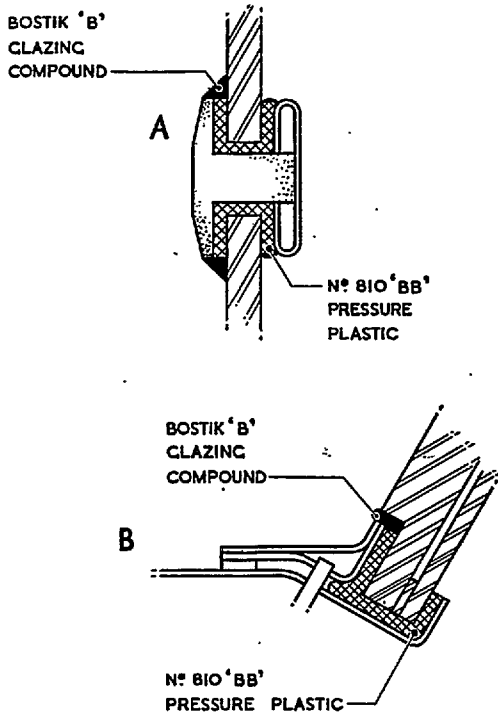

Fig. 3.—Further examples of mounting and sealing
21. Two similar examples of glazing and sealing are shown in fig. 3. Where the assembly is similar to that illustrated at A the fillet of Bostik-B is applied after the glazing panel has been pressed into the plastic. Where a cover plate is used as at B, the plate should be fitted before the strips of plastic are attached to the glazing panel. This is necessary so that the operator may judge the amount of plastic required. After the plastic has been attached to the panel, the bead of Bostik-B should be inserted and the cover plate mounted.